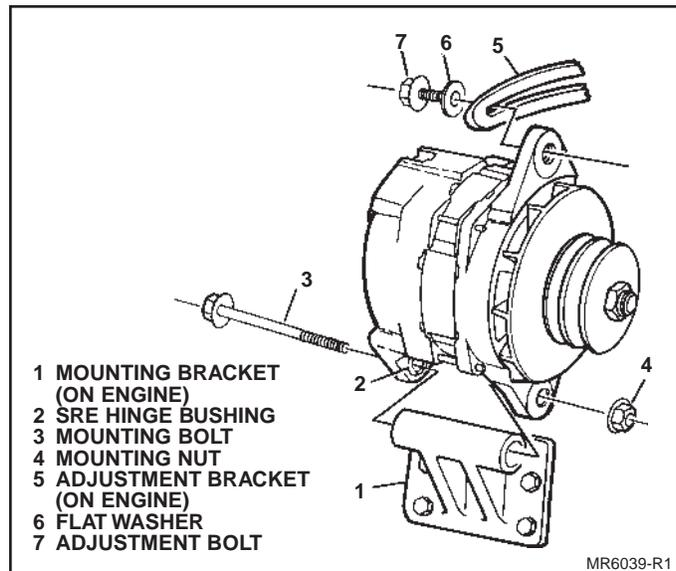
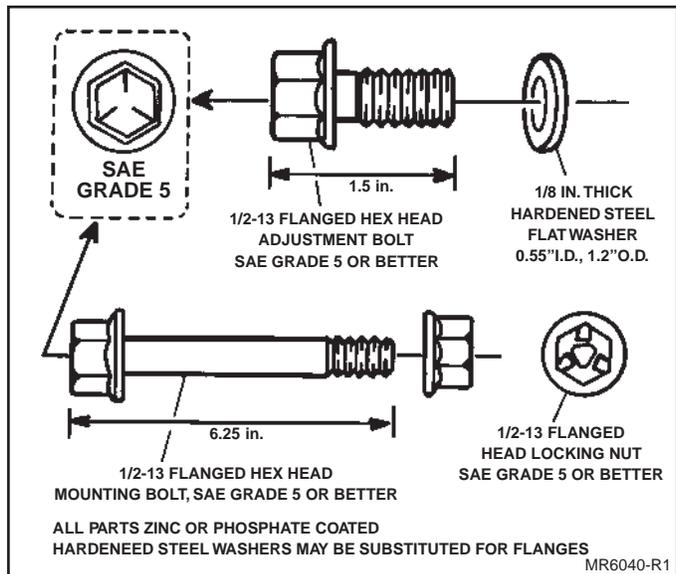

Figure 40. Installing Alternator on Engine
Figure 41. Alternator Mounting Bolts
3. Alternator double mounting lugs to mounting bracket on engine (Fig. 40). Adjust hinge bushing in mounting lug by tapping endways until it just clears the spool on the mounting bracket. Install flanged mounting bolt and flanged mounting bolt nut. If bolt and/or nut are not flanged, 1/8” thick hardened steel washers (part no. 1967343) must be substituted for flanges (Fig. 41).
4. Alternator adjustment lug to adjustment bracket on engine, with 1/8” thick hardener steel washer (part no. 1967343) and flanged adjustment bolt (Fig. 40). Finger tighten.